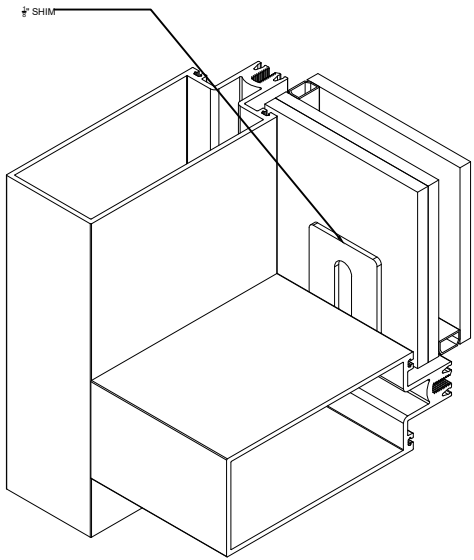

Fig. 36.2
- B. Install glass onto setting blocks, positioning the glass for proper glass bite into vertical mullions. Insert a 1/8" thick shim between the inboard side of the glass and back member to properly space the glass from the mullion to insure proper wet seal thickness. Place shims at top, middle and bottom of the lite. se Fig. 36.2. Make sure the glass is firmly against the shims before installing temporary glazing clips or pressure plates.